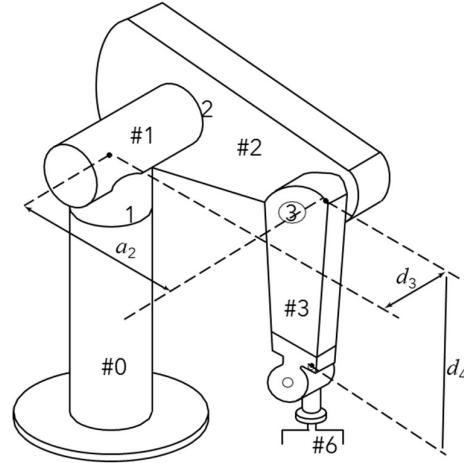

Figure 2: Puma Robot
- Perform inverse dynamics of 6-DOF PUMA Robot shown in Figure 2 using ReDySim for the DH parameter given. Refer the following document for DH parameters, mass, inertia properties and location of center of mass : https://khatib.stanford.edu/publications/pdfs/Armstrong_1986.pdf